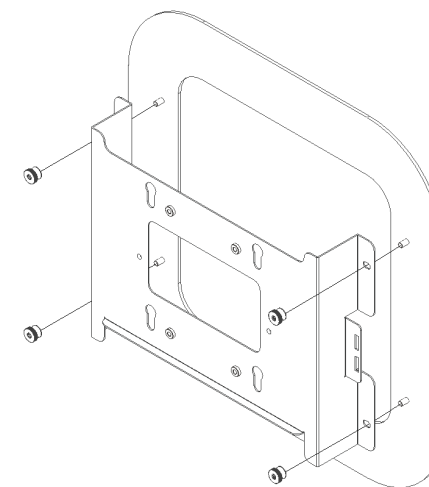

Figure 3 - Remove Mounting Plate
Step 3 – The torsion spring that is used to secure the trim assembly to the tile bridge is shipped separately (to prevent damage) and must be installed prior to the first use. To install torsion springs, first detach the mounting plate from the trim face by removing the four thumb nuts (Figure 3).